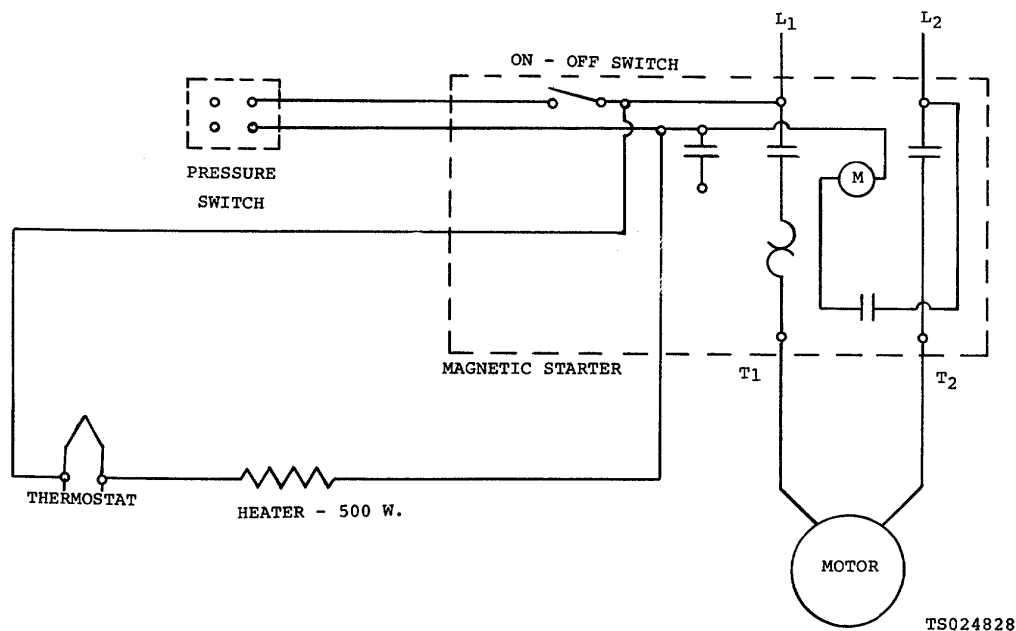

Figure 1-3. Wiring
d. *Wiring Diagram.* Refer to figure 1-3 for the initial wiring diagram.